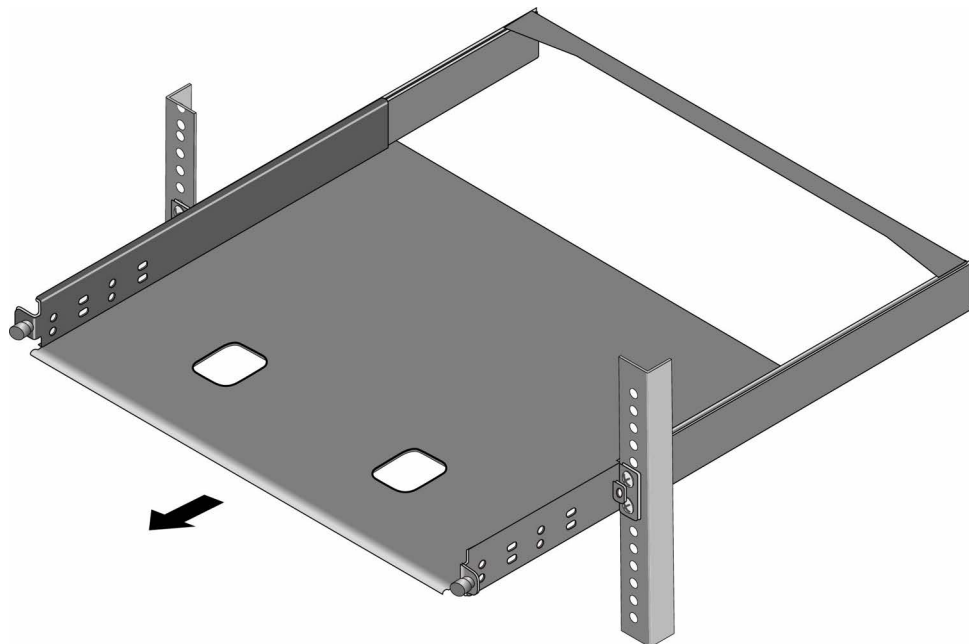

Figure 34. Sliding Out the Tray from the RKMT-J15 Rack-Mount
5. Slide out the tray as shown in Figure 34.